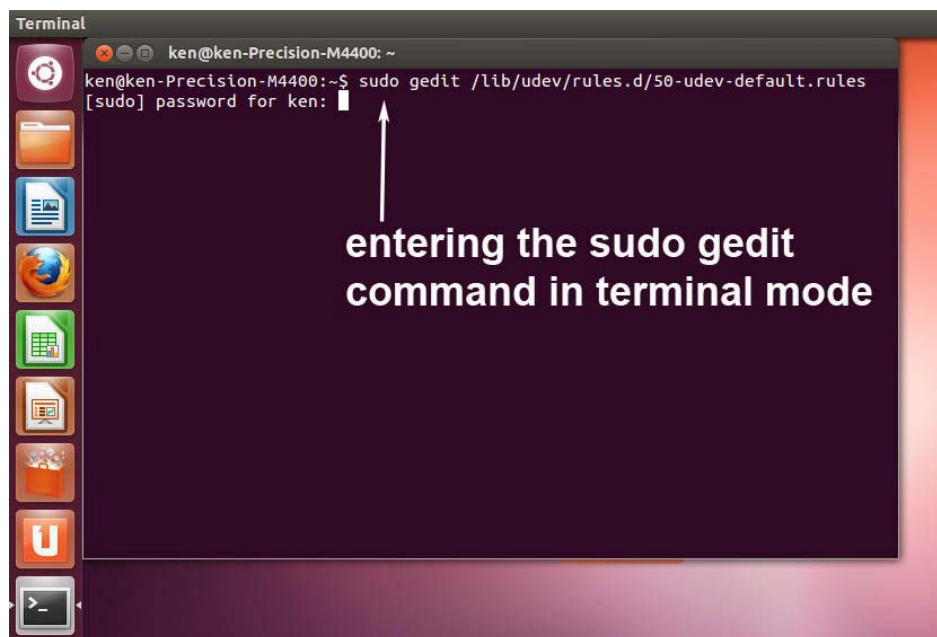

Figure 10 – TERMINAL mode command-line window while typing the “sudo gedit” command
- Open this file with GEDIT tool in terminal by typing in `sudo gedit /lib/udev/rules.d/50-udev-default.rules` And then press ENTER. See **Figure 10**.